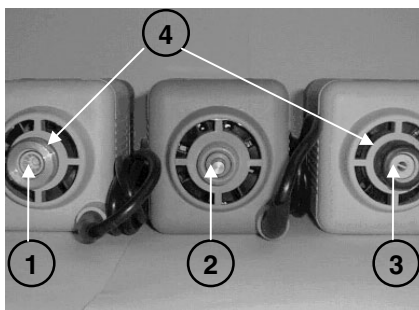

Fig. 3
The appliance is now ready for attachment of the required tool and subsequent use; note that, depending on the exact motor model, the following flexible shaft attachment systems may be present (see Fig. 3):
- 1) unscrew the ringnut on the motor casing base (4, Fig. 3) and insert it on the flexible shaft;